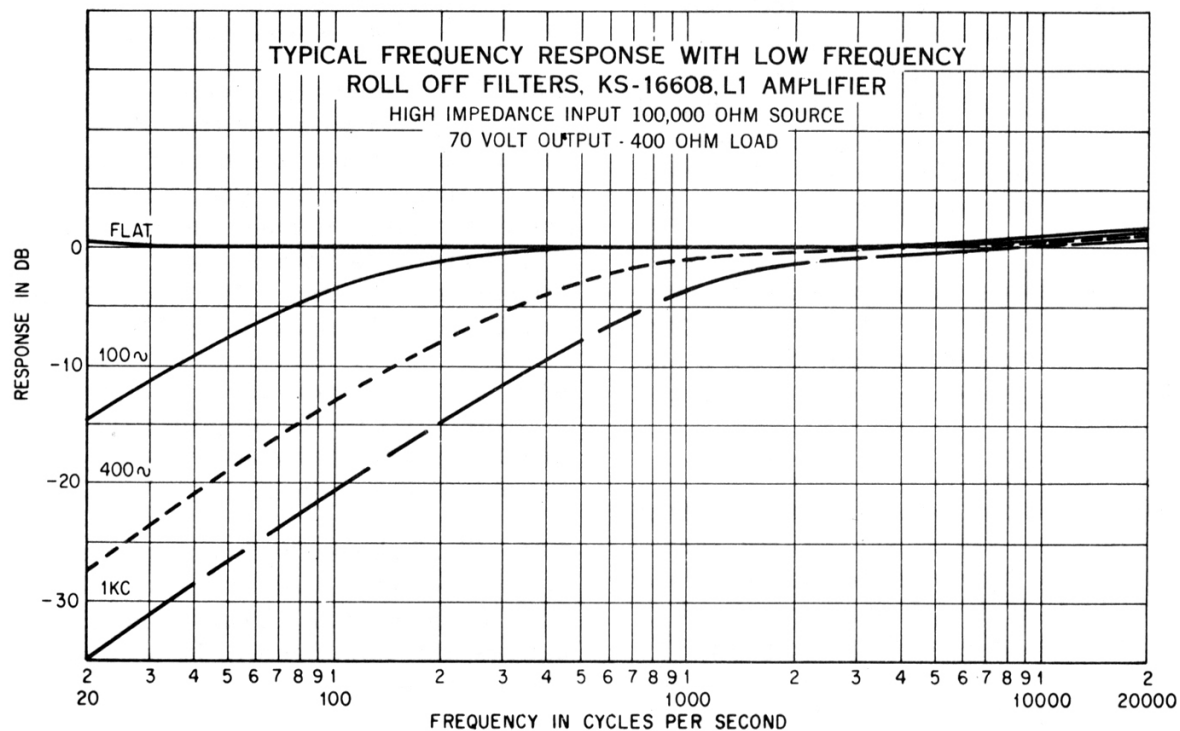

Fig. 5. – Response with Low Frequency Roll-Off
**6.02** Fig. 5 shows the frequency response of the amplifier with low frequency roll-off. This feature is provided to reduce the output level of the frequencies in the low end of the band and thereby prevent damage to reproducing horns. This feature may also be used to minimize auditorium reverberation. The connections for the desired roll-off are made on TB4.